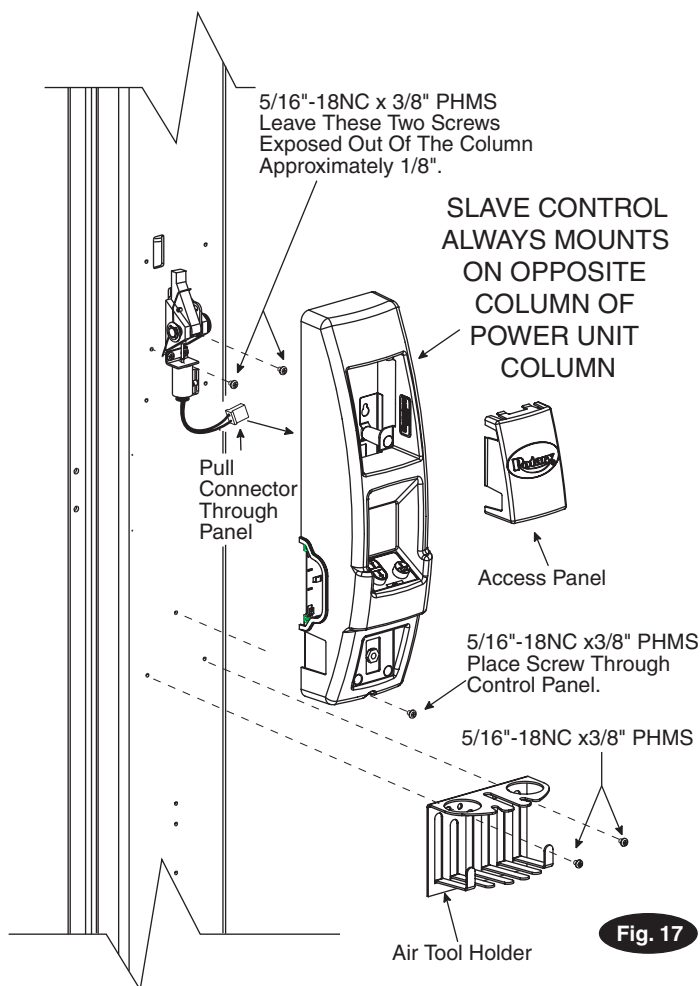

Fig. 17
- D) Installing Slave Control Panel & Tool Holder: Remove access panel from the slave control panel, Fig. 17. Place two 5/16"-18NC x 3/8" PHMS screws in holes on each side of the locking latch leaving approximately 1/8" exposed to hold the panel. Hang the slave control panel over locking latch to column on the 5/16"-18NC x 3/8" PHMS screws and pull the locking latch solenoid wire through the panel, Fig. 17. Install one 5/16"-18NC x 3/8" PHMS in bottom of slave control panel. Tighten the upper two screws in top of panel. Install one of the air tool holders under the slave control panel with two 5/16"-18NC x 3/8" PHMS, see Fig. 17.